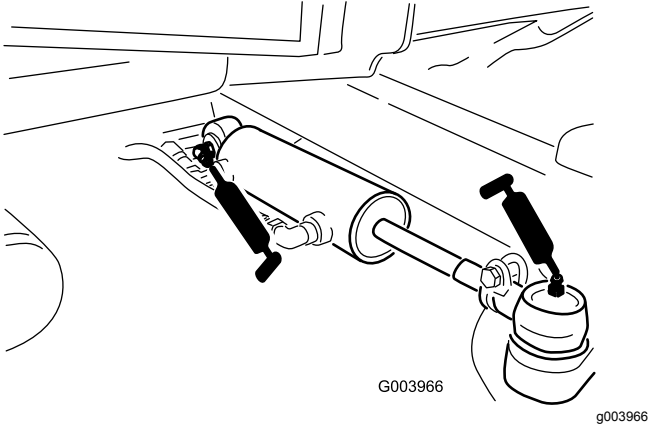

Figure 82
- Steering-cylinder ball joints (2) (Figure 82)